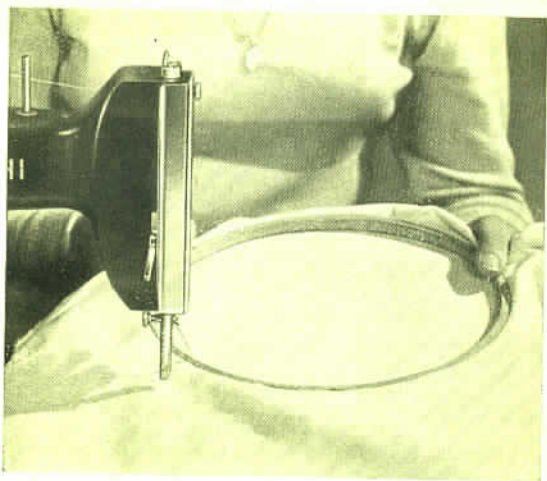

Fig. 23
- 6 Insert stretched material in special frame (Fig. 23).
Improper shifting of frame when embroidering	Change needle and follow instructions at page 19 Fig. 23